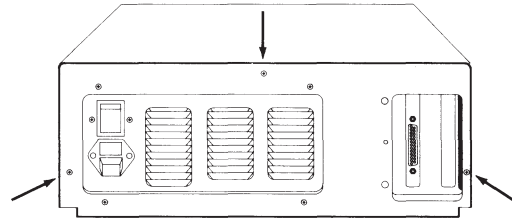

Figure 7-49. Expansion Unit Cover Retaining Screws.
6. Remove the three cover retaining screws from the rear of the expansion unit (Figure 7-49).